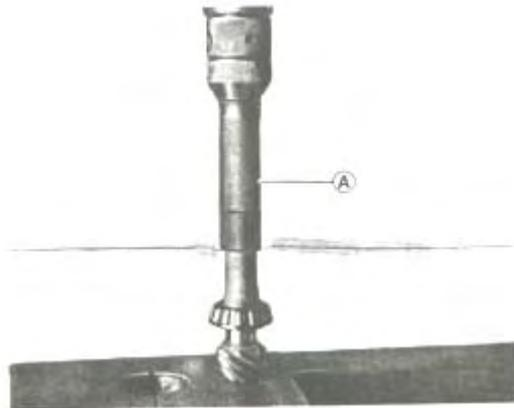

FIG.13-28
(4) Press drive pinion gear rear bearing cone by using special stool.(FIG.13-28)